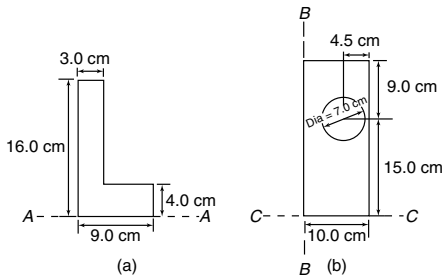

Figure 7.25
10. Determine the second moments of areas about the given axes for the shapes shown in Figure 7.25 (In Figure 7.25(b), the circular area is removed.)